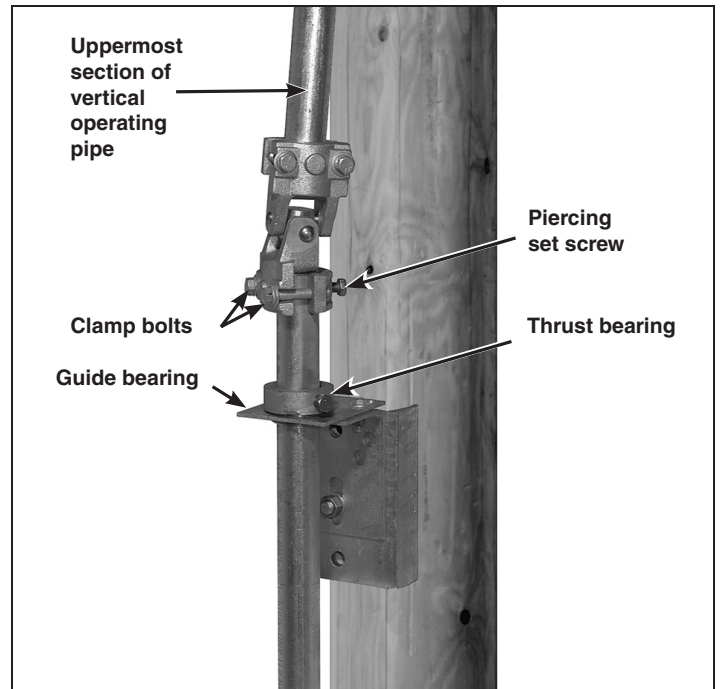

Figure 7. Install the intermediate section of the vertical operating pipe.
STEP 9. Position and install the guide-bearing assembly on the pole or structure in accordance with the dimension shown on the erection drawing. See Figure 7.
While holding the pipe in this position—and with the thrust bearing resting on the guide bearing—tighten the piercing set screw in the thrust bearing, piercing the pipe. Continue turning until a firm resistance is felt. See Detail B on the erection drawing. See Figure 7.